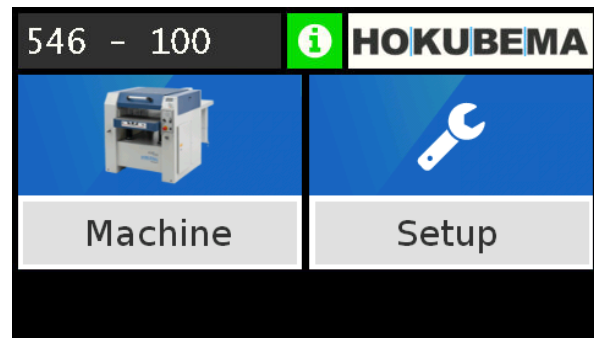

Figure 48: Screen "ready for use"
- When booting, the main menu initially appears in German language graphically unclear, blurred and with a red **i** → As soon as the main menu appears clear and sharp, the position controller and the machine are ready for operation (see ⇒ Figure 48).